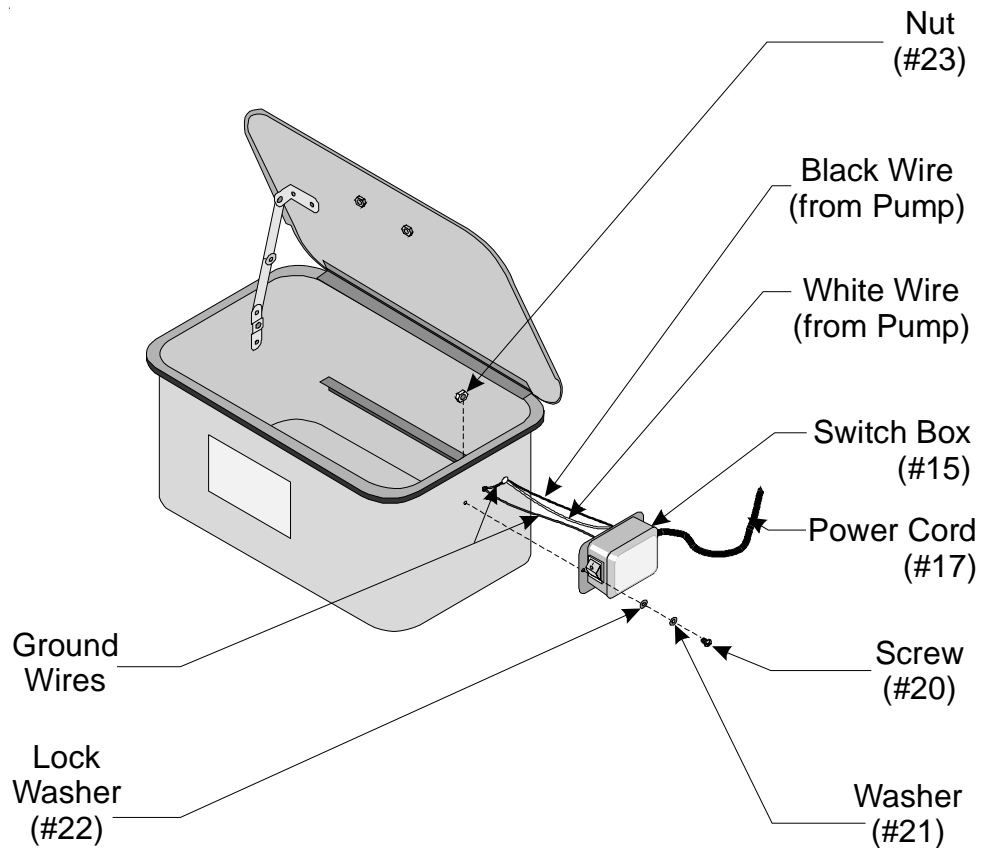

Figure 3 — Attaching the Switch Box to Tank
Step 3: Attach the SWITCH BOX (#15) to the TANK (#1) using two SCREWS (#20), WASHERS (#21), LOCK WASHERS (#22), and NUTS (#23) as shown in Figure 3.